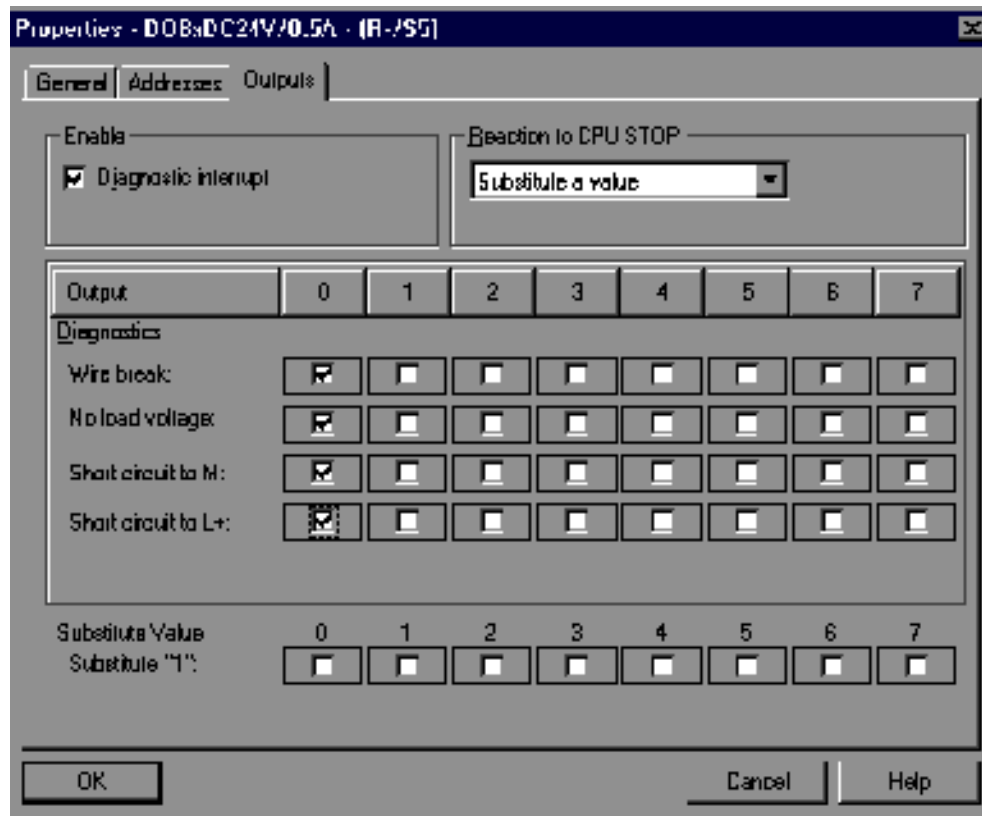

Figure 2-5 DP slave properties dialog box for SM 322
- in the DP slave properties dialog box for SM 322, slot 5 in the configuration table (see Figure 2-5)